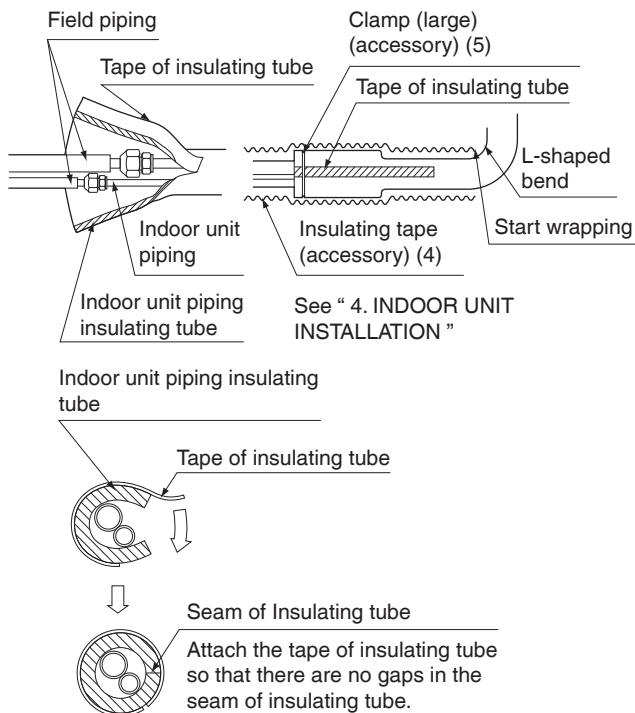

Fig. 15
- After checking for gas leaks, be sure to insulate the pipe connections using the piping insulating tube and insulating tape (4). The insulating tape (4) should be wrapped from the L-shaped bend all the way to the end inside the unit. (Refer to Fig. 15)